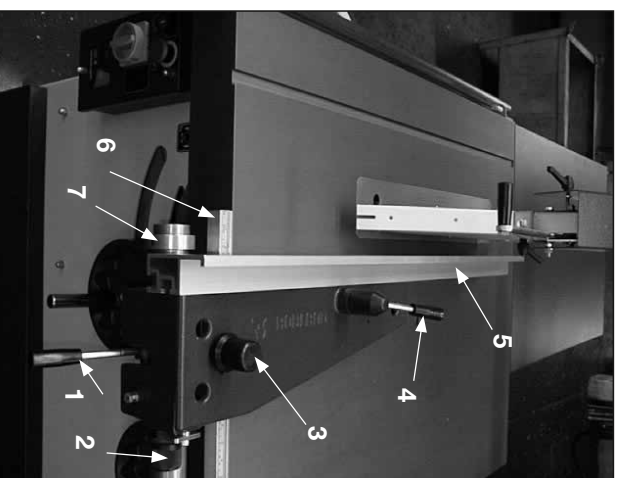

Fig. 14
When the serrated knob (fig. 14,3) is unlocked, and the handle (fig. 14,1) is lifted up, the complete parallel fence can be moved.
Simply unlock the clamping handle (4) on top of the casting and slide off the fence, and set the fence back in the low position as shown in fig. 14 bis.
Calibration of the scale on the fence (Fig. 14)